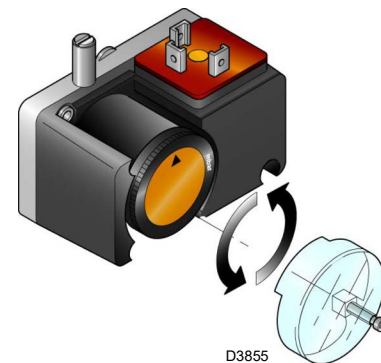

Fig. 31
- Adjust the pressure switch for the valve leak detection control device (PVP Kit)(Fig. 31 at page 32), if present, according to the instructions supplied with the Kit itself.
Adjust the pressure switch for the valve leak detection control device (PVP Kit) (Fig. 31), if present, according to the instructions supplied with the Kit itself.